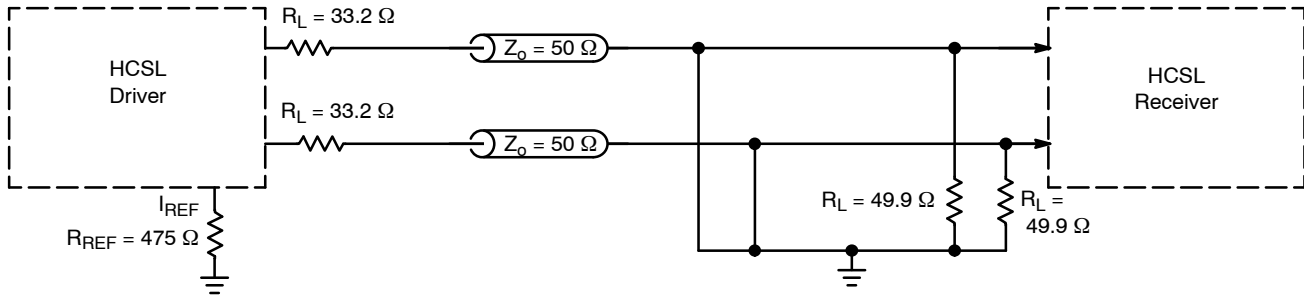

Figure 3. Typical Termination for Output Driver and Device Evaluation
- Measurement taken with outputs terminated with R_S = 33.2 Ω, R_L = 49.9 Ω, with load capacitance of 2 pF and current biasing resistor, R_{REF} from I_{REF} (Pin 9) to GND of 475 Ω. See Figure 3.
7. Measurement taken from differential output on single-ended channel terminated with $R_S = 33.2\ \Omega$, $R_L = 49.9\ \Omega$, with load capacitance of 2 pF and current biasing resistor, R_{REF} from I_{REF} (Pin 9) to GND of 475 Ω . See Figures 3 and 4.